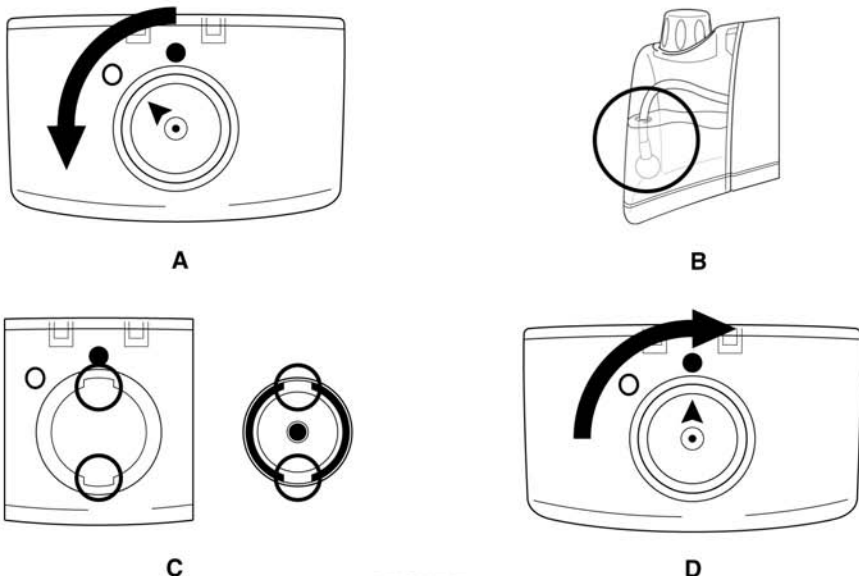

FIGURE 5
1. Remove Water Tank Cap by turning it counter-clockwise, so that arrow on top of cap points towards open circle graphic on Water Tank (FIGURE 5-A). Pull cap off when it feels loose.
2. Fill Water Tank with water. The simplest way to do this is to fill it directly from a water faucet. Any amount of water can be used, so long as pump hose inside tank is submerged (FIGURE 5-B). However, in order to get the maximum steam time from a single fill, the Water Tank must be completely filled (approximately 10 oz. / 295 ml.).
3. Once Water Tank is filled, replace Water Tank Cap. Align tabs on bottom of cap with slots around edge of fill hole (FIGURE 5-C). Insert cap, then turn it clockwise, so that arrow on top of cap points towards solid circle graphic on Water Tank (FIGURE 5-D).